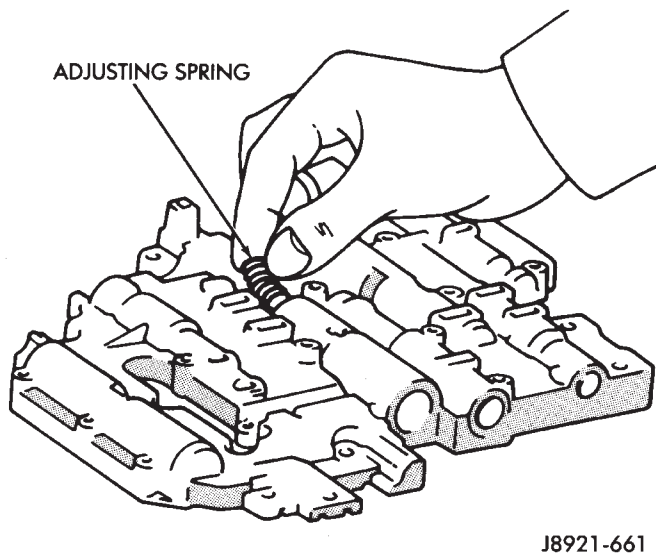

Fig. 18 Installing Throttle Valve Adjusting Spring
(13) Install throttle valve adjusting spring in bore and onto end of throttle valve (Fig. 18).